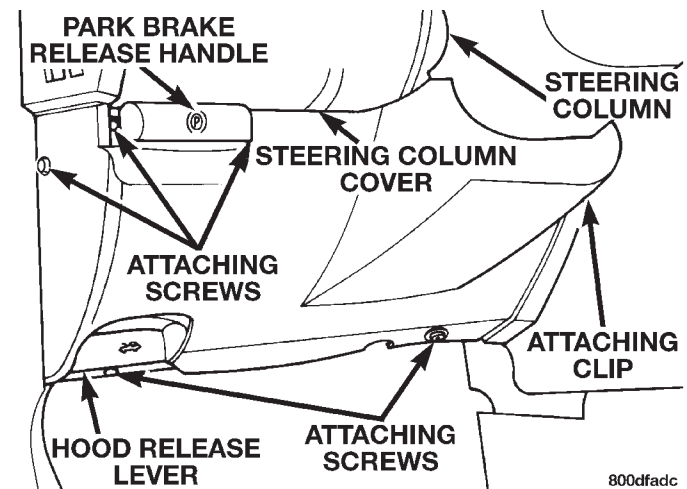

Fig. 2 Lower Steering Column Cover Attachment Locations
(1) Make sure the front wheels of the vehicle are in the **straight ahead** position before beginning the column removal procedure.
(2) Disconnect negative (ground) cable from the battery and isolate cable from battery terminal.
(3) Remove the screws attaching the lower steering column cover to the instrument panel (Fig. 2). Remove the lower trim panel from the lower instrument panel.